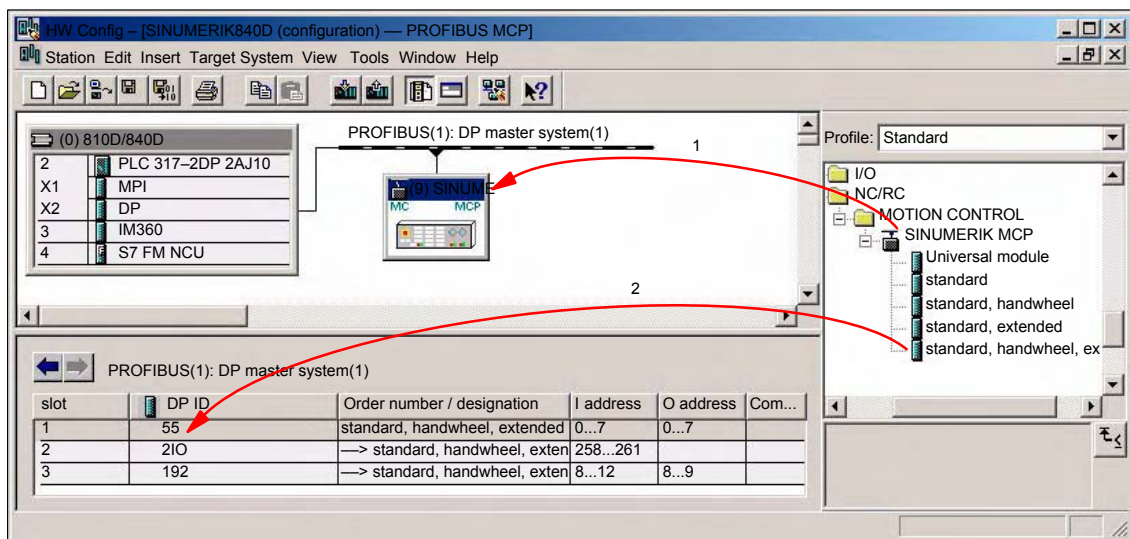

Fig. 8-19 Configuration with DP slave: MCP 483
This section describes the configuration of a DP slave: MCP 483 by way of example of the configuration of a SIMATIC S7 project shown in Fig. 8-19.
1. Insert DP slave: MCP 1,226.82 cm the configuration (see Fig. 8-19, Page 8-208: 1)
3. Insert the modules in DP slave: MCP 483 for the functions required. (see Fig. 8-19, Page 8-208: 2)